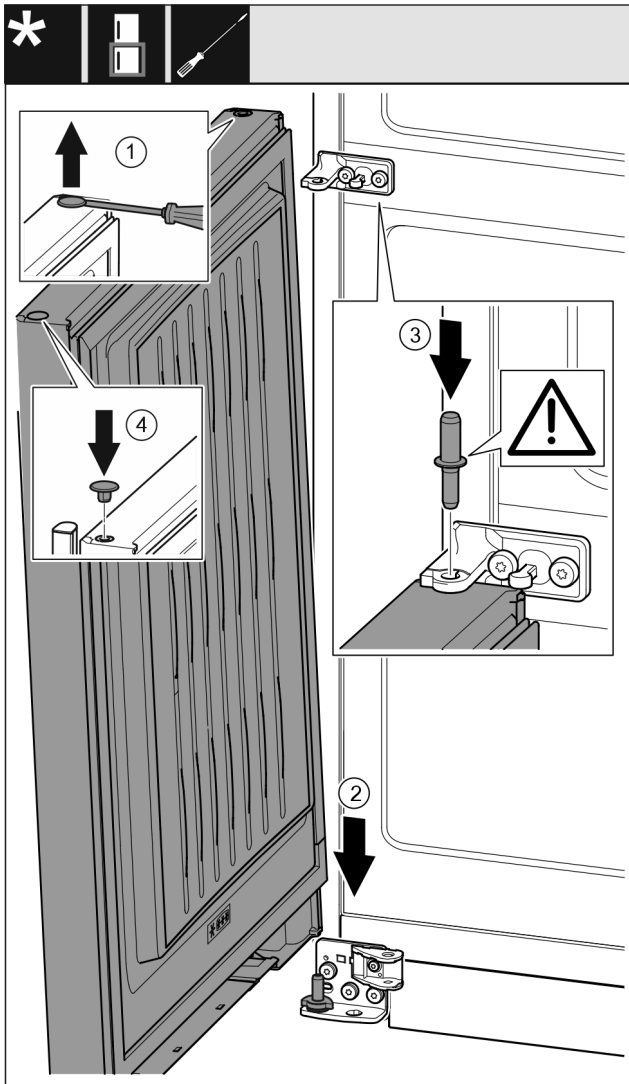

Fig. 39
- Carefully lift up the plugs with a slotted screwdriver and pull them out. Fig. 39 (1)
- Position the door from above onto the lower bearing pins. Fig. 39 (2)
- Insert the center bearing pin through the center bearing bracket into the bottom door. Make sure that the latching lug is pointing to the rear. Fig. 39 (3)
- Insert the plugs again on the other side of the door. Fig. 39 (4)